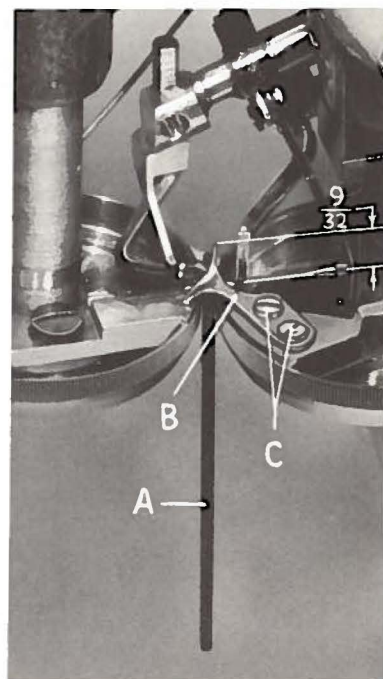

Fig. 11
The stationary position of the stitch tongue is set to gauge No. 21227 CA (A, Fig. 11). Place gauge No. 21227 CA (on end) between the feed cups and allow front cup to bear against gauge, with left edge almost extending to point end of stitch tongue (B).
NOTE: If standard stitch tongue (No. 41397 B, marked "DF") is used, set stitch tongue laterally to obtain a measurement between the stitch tongue point and center of needle of $9/32$ inch (Fig. 11).